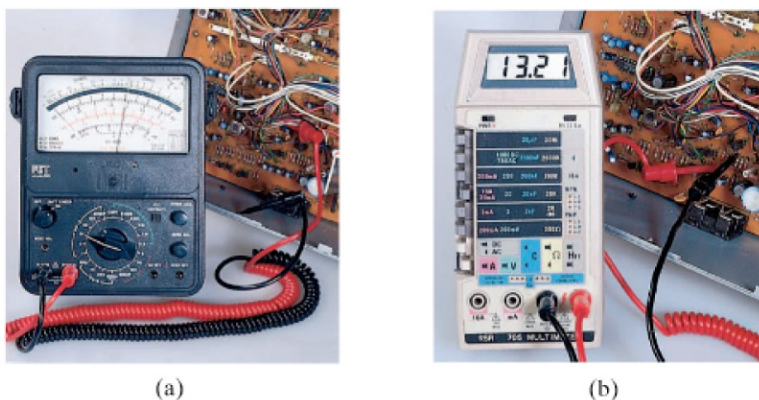

FIGURE 19–29 (a) An analog multimeter being used as a voltmeter. (b) An electronic digital meter.
An **ammeter** is used to measure current, and a **voltmeter** measures potential difference or voltage. Measurements of current and voltage are made with meters that are of two types: (1) *analog* meters, which display numerical values by the position of a pointer that can move across a scale (Fig. 19–29a); and (2) *digital* meters, which display the numerical value in numbers (Fig. 19–29b). We now discuss the meters themselves and how they work, then how they are connected to circuits to make measurements. Finally we will discuss how using meters affects the circuit being measured, possibly causing erroneous results—and what to do about it.
The crucial part of an analog ammeter or voltmeter, in which the reading is by a pointer on a scale (Fig. 19–29a), is a *galvanometer*. The galvanometer works on the principle of the force between a magnetic field and a current-carrying coil of wire, and will be discussed in Chapter 20. For now, we merely need to know that the deflection of the needle of a galvanometer is proportional to the current